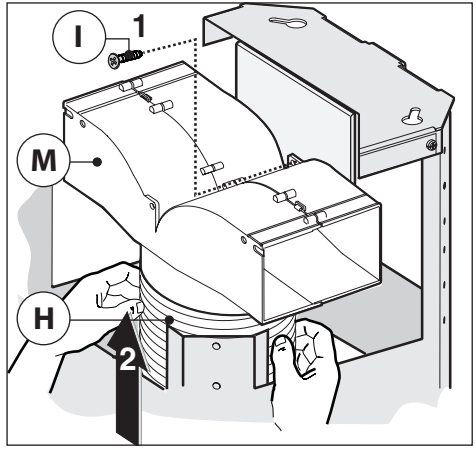

Fig.11
-Connect the flexible tube **H** to the deflector **M** and secure the screw **I** as indicated in (Fig.11).